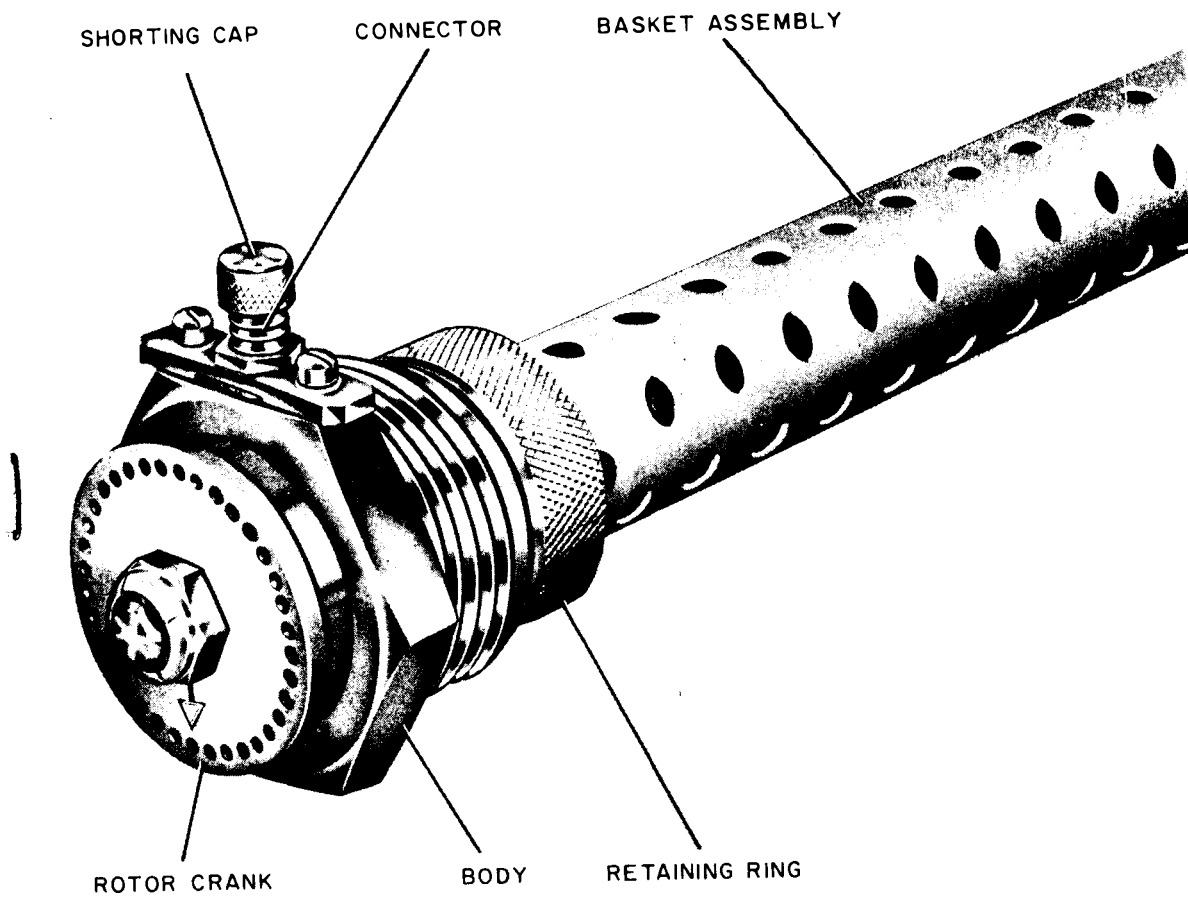

Figure 5-36. Igniter, MK 265 Mod 0
(2) MK 265: Used with the AIM-7E and the MK 38 rocket motor. The rotor assembly can be rotated 90° relative to the body to provide a positive mechanical safing capability by moving the initiating charges out of line with the primary charges. The MK 265 is shipped installed in the MK 38 motor. An arming key or actuator is used to move the igniter from safe to armed and back (reference figures 5-36 and 5-37).